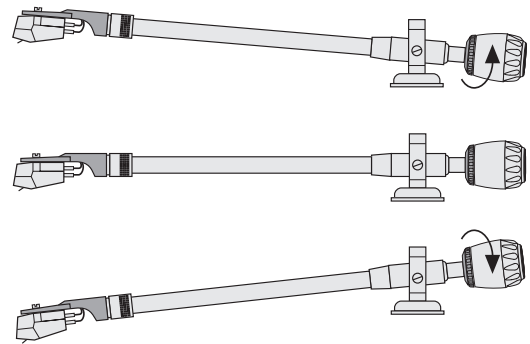

Fig. 5: Tone arm balance
- 4 Lead the tone arm with the left hand to the side so that the stylus does not hit against the turntable platter. With the right hand turn the counterweight so that the tone arm remains exactly in a horizontal position and does not move upwards or downwards (Fig. 5).